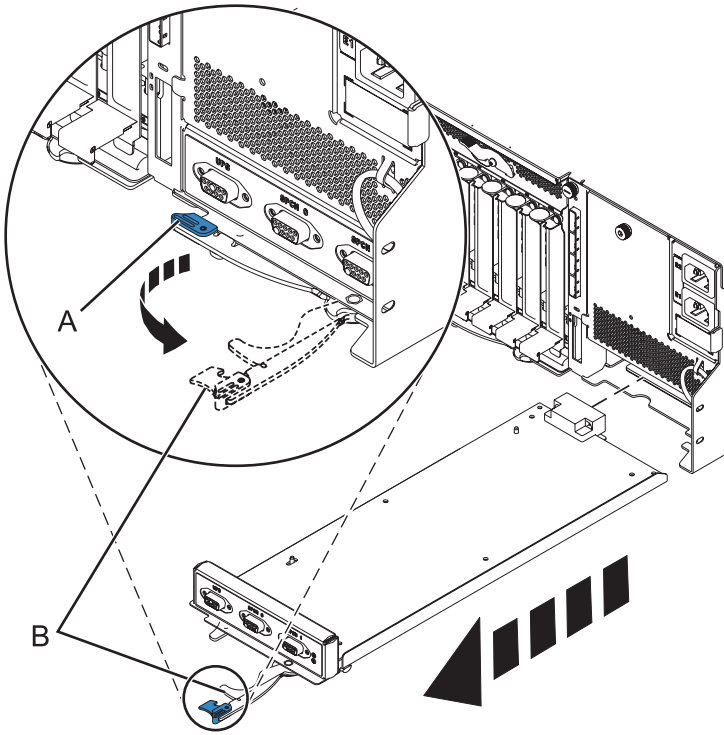

Figure 67. Remove the enclosure management controller
- b. Pinch the latch (A) to unlock the handle (B). See Figure 67 on page 84.